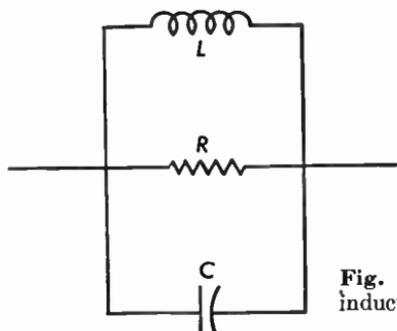

Fig. 3.18 Resistance, capacitance and inductance in parallel.
3.18 In Figure 3.18, $L = 5$ henries, $R = 5000$ ohms, $C = 1$ microfarad and $f = 250$ cycles. Find the equivalent series circuit, the absolute value of the impedance and the phase angle.